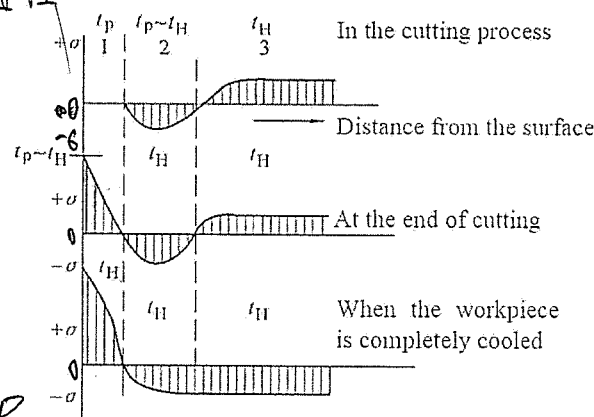

Figure 6
(2) 属于系统误差。系统误差是大小或方向不变或呈一定规律变化的误差，在实际生产中，常用点图法等方法统计出系统误差并在工艺系统中做出相应调整以消除误差。
12. Analyze the influences of cutting heat on residual stress on the machined surface of the workpiece in the cutting process, at the end of cutting and when the workpiece is completely cooled in the machining process based on Figure 6. Here, t_H representing room temperature when the workpiece has high plasticity and t_p refers to the temperature; $+\sigma$ and $-\sigma$ represent tensile stress and compressive stress, respectively; 1, 2 and 3 represent three layers of metal at different distances from the workpiece surface, respectively. (6 points)